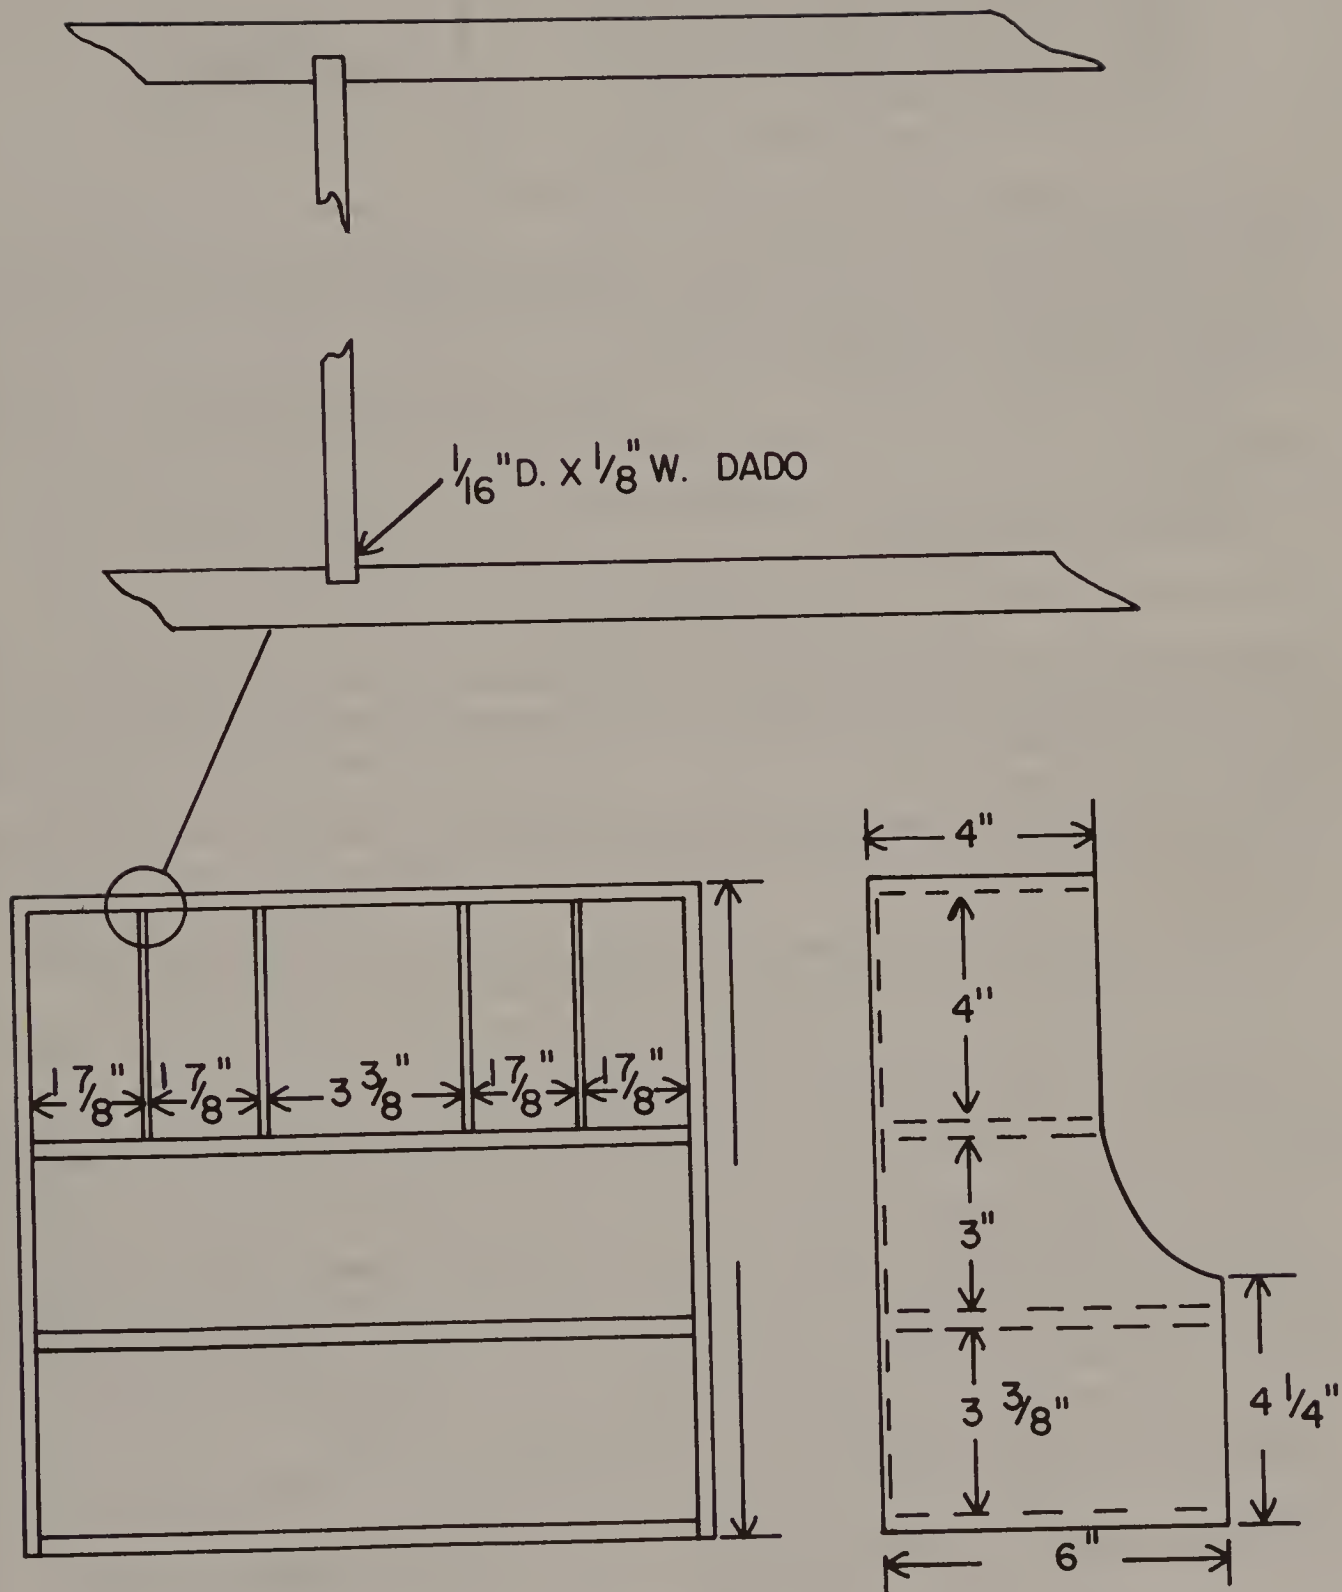

Fig. 8-5. A desk caddy can help you keep your desk organized.
A well-organized desk is something that is hard to keep. The desk caddy shown in Fig. 8-5 works well on a desk, in the kitchen, or by the phone.
- ☐ Lay out the final shape of the sides as shown in (Fig. 8-5) plan using a straight and curved cut. Sand all cut edges smooth.